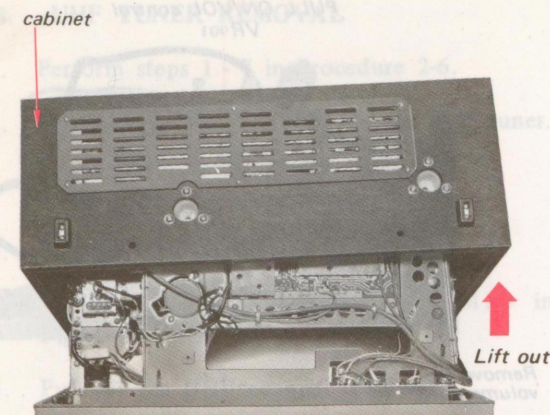

Fig. 2-6. Cabinet removal, Step 5
5. Lift the Cabinet out as shown in Fig. 2-6.